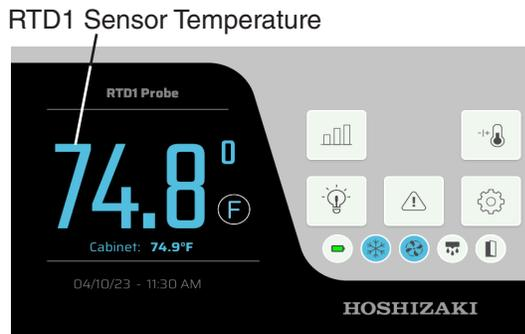

Fig. 14
- 1) Press and release the center of the RTD1 sensor temperature display. The touchscreen setup view is shown. See Fig. 14.